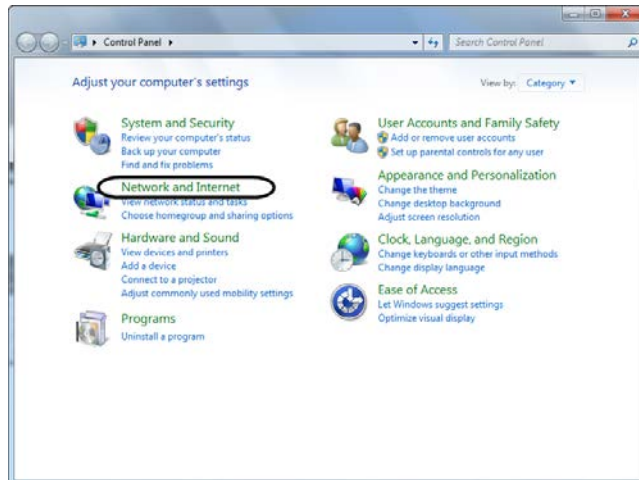

Figure 20
2. Click on the **Network and Internet** link (Figure 20).